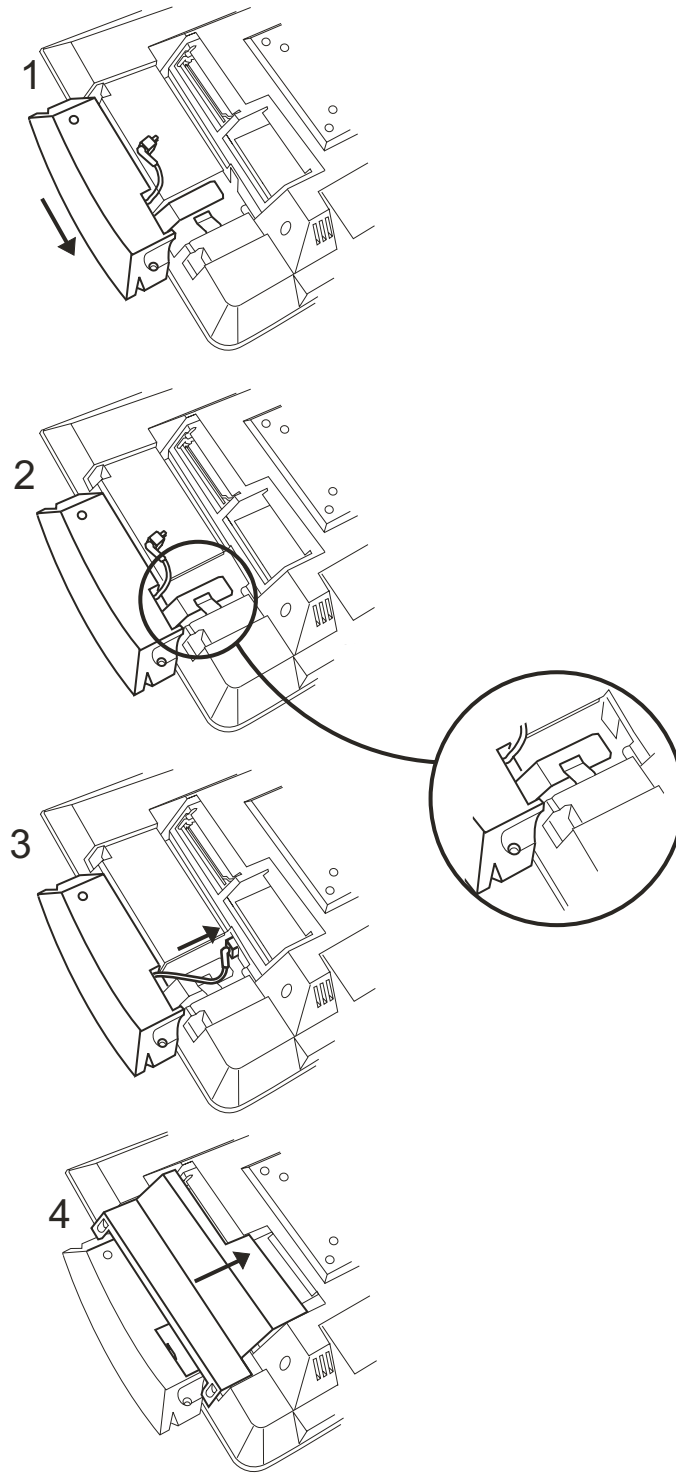

Figure 7. Installing the MSR (15 and 17 inch models)
| Figure 7 on page 15.
4. Slide the grounding strap under the grounding clip. See **2** in Figure 7.
5. Plug the USB cable into the connector. See **3** in Figure 7.
6. Install the hard drive door with MSR latching tab and secure the two screws. See **4** in Figure 7.